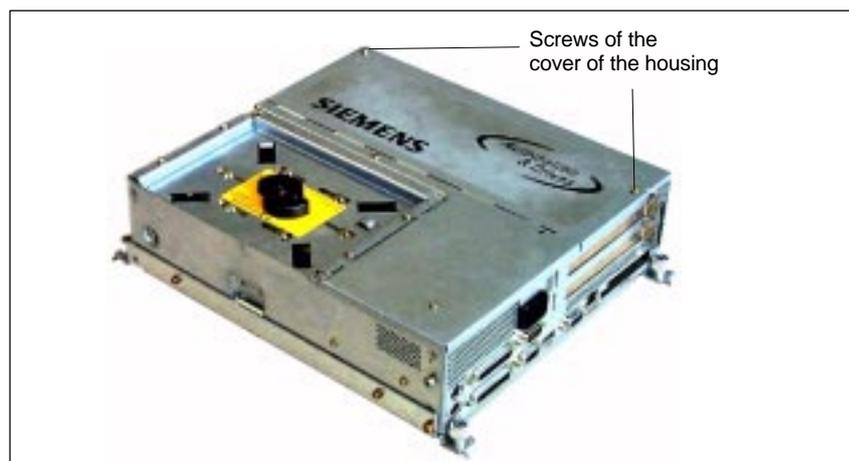

Fig. 2-2 Cover of the housing of the PCU 50
4. Remove the screws from the cover of the housing (Fig. 2-2) and open the housing of your PC, observing the relevant safety regulations.